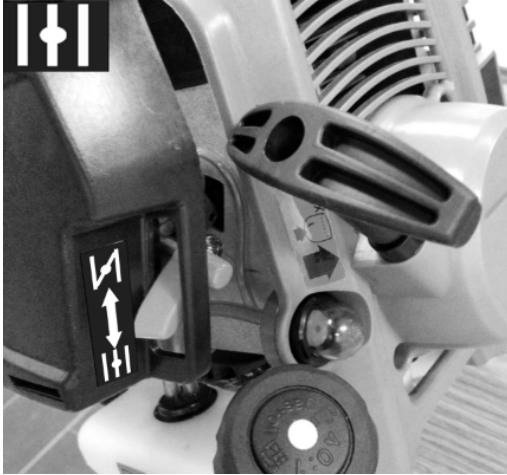

Fig.11
5) Turn the choke lever to the run position  as the engine started.(Fig.11)